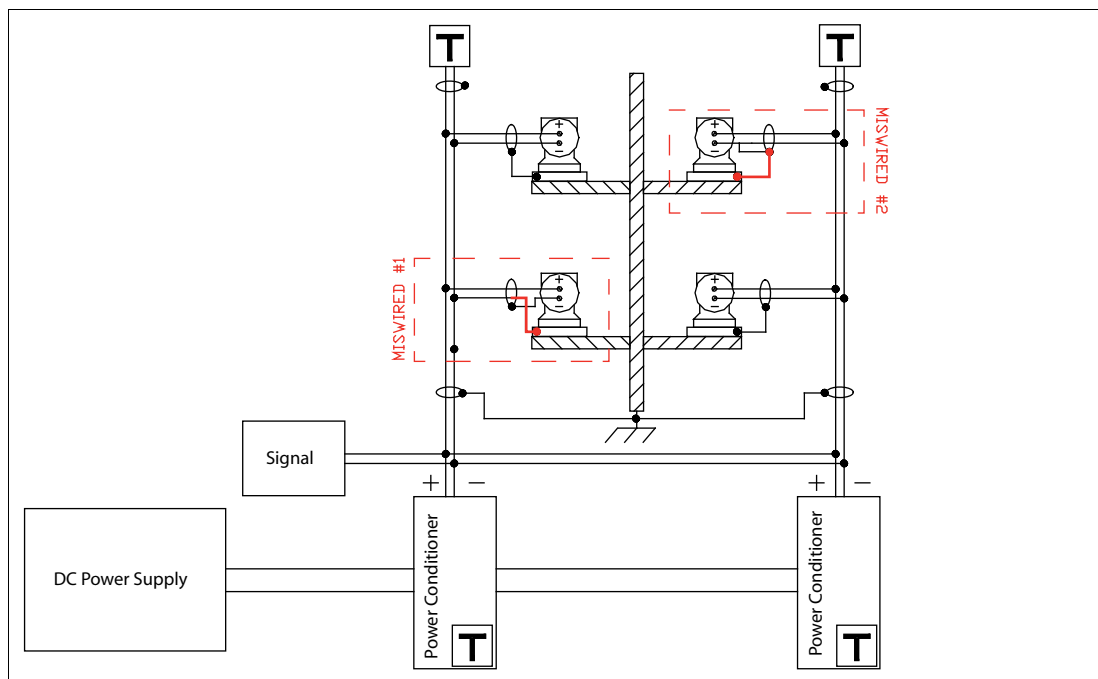

Figure 8.1 Fault wiring DC unbalance
**Miswiring/incorrect installation** → see Figure 8.1 on page 141: